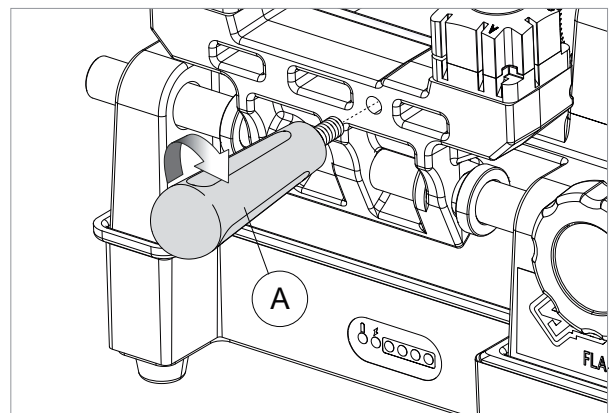

Fig. 12
Screw the handle (A) onto the carriage (A) (Fig. 12).